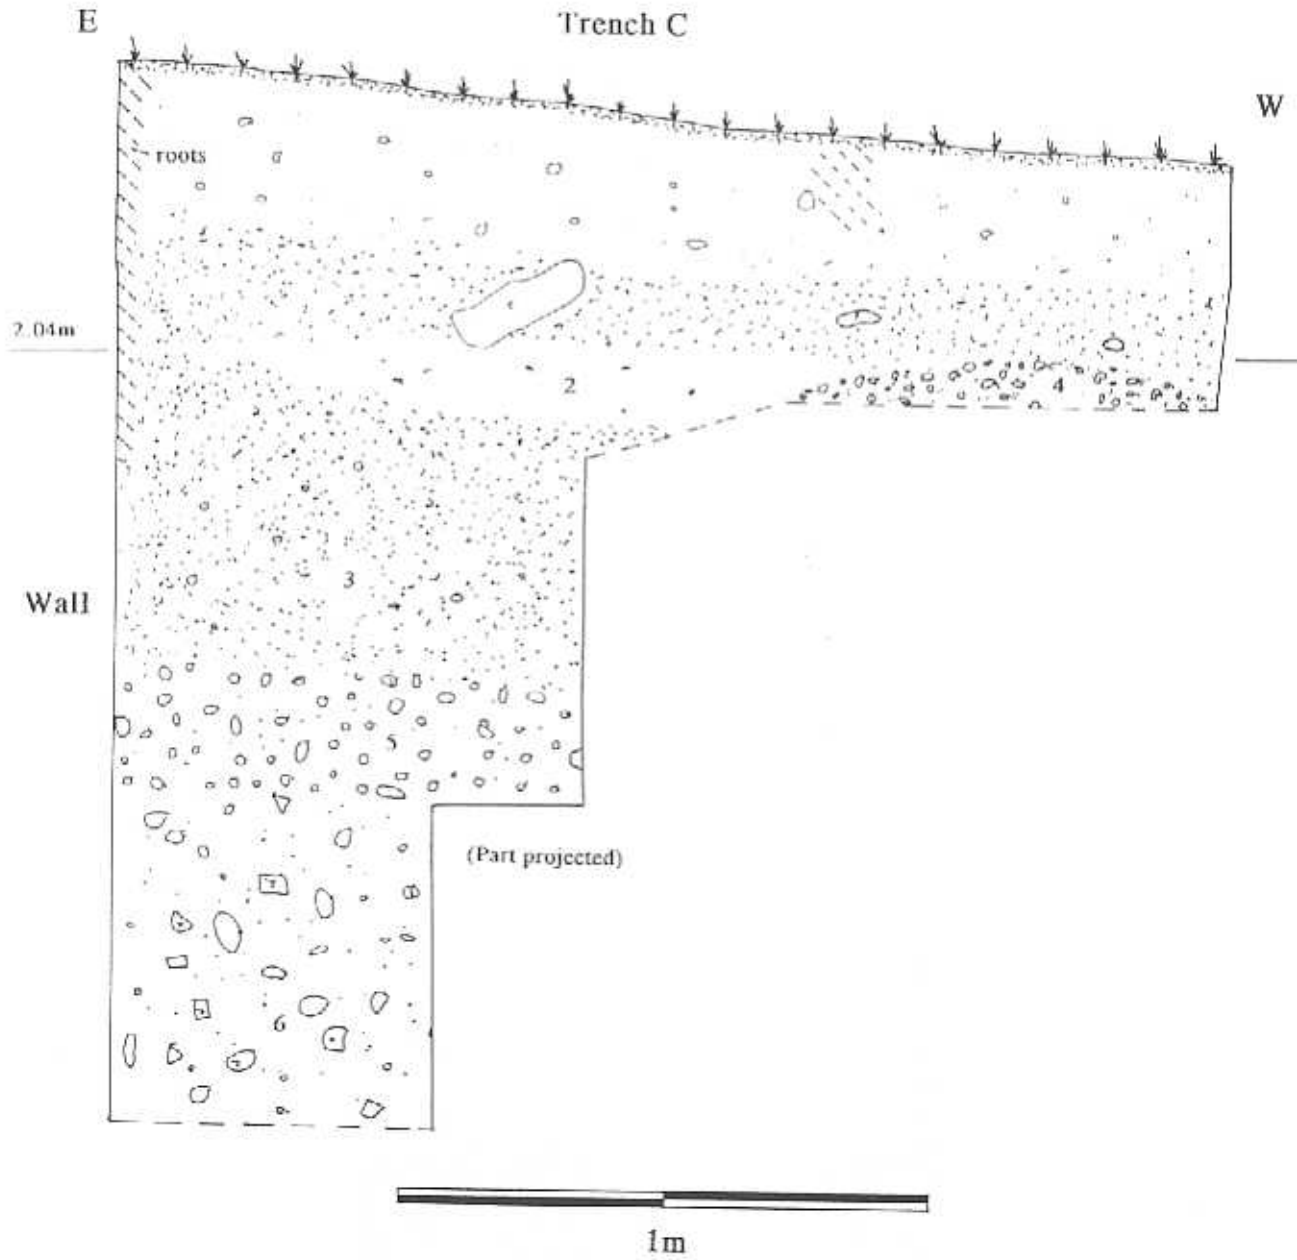

Figure 6 Section, Trench C.
Several layers were observed in the section which differed from that seen in trenches A and B, in particular with much less coarse chalk rubble. The basal deposits comprised a dark layer of mixed tile, brick, stone and chalk rubble (6) which could be the original backfill of a foundation trench. Above this in succession were layers mainly comprising chalk rubble (5), a humic sandy loam (3), a calcareous silty clay (2) and topsoil (Fig. 6).